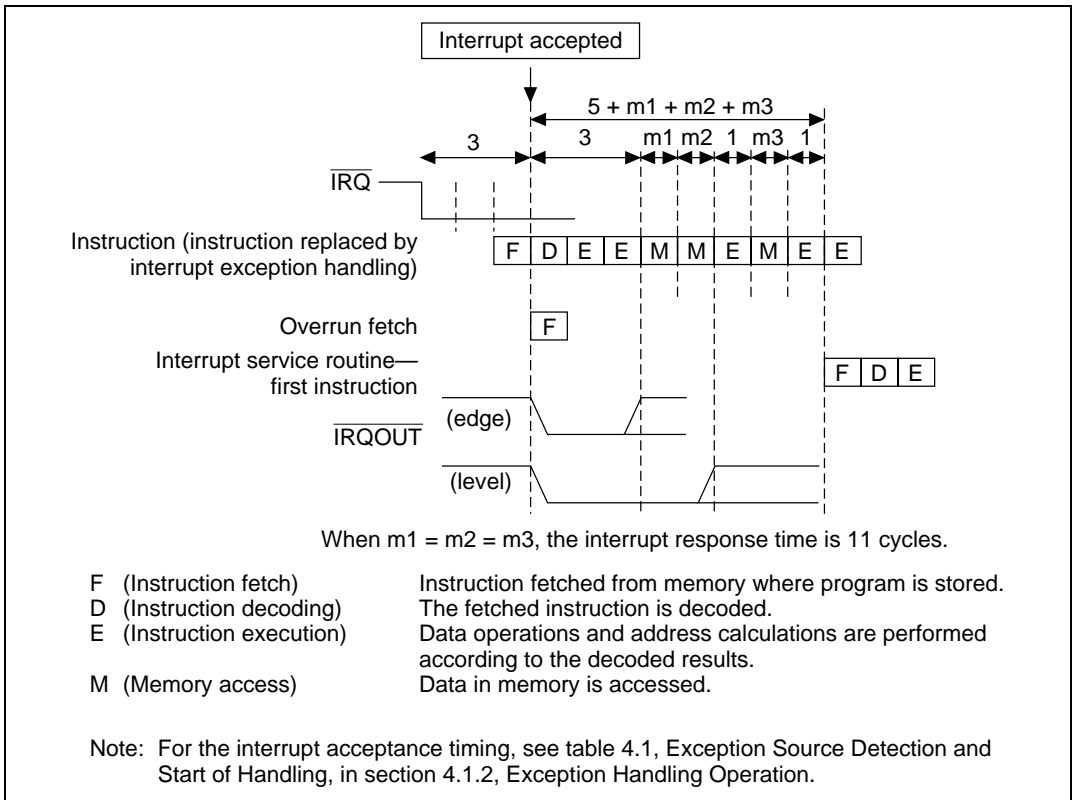

Figure 5.4 Example of Pipelining in IRQ Interrupt Acceptance
3. The interrupt controller compares the priority level of the selected interrupt request with the interrupt mask level bits (I3–I0) in the CPU’s status register (SR). If the request priority level is equal to or less than the interrupt mask level, the request is ignored. If the request priority level is higher than the interrupt mask level, the interrupt controller accepts the request and sends an interrupt request signal to the CPU.
5. The CPU detects the interrupt request sent from the interrupt controller when it decodes the next instruction to be executed. Instead of executing that instruction, the CPU starts interrupt exception handling. (See figure 5.4.)
7. The priority level of the accepted interrupt is copied to the interrupt mask level bits (I3–I0) in the status register (SR).
8. When the accepted interrupt is level-sensed or from an on-chip supporting module, the $\overline{\text{IRQOUT}}$ pin returns to the high level. If the accepted interrupt is edge-sensed, the $\overline{\text{IRQOUT}}$ pin returns to the high level when the instruction to be executed by the CPU in (5) is replaced by the interrupt exception handling. If the interrupt controller has accepted another interrupt (of a level higher than the current interrupt), however, the $\overline{\text{IRQOUT}}$ pin remains low.
Table 5.5 shows the interrupt response time, which is the time from the occurrence of an interrupt request until interrupt exception handling starts and fetching of the first instruction of the interrupt handling routine begins. Figure 5.4 shows the pipeline when an IRQ interrupt is accepted.